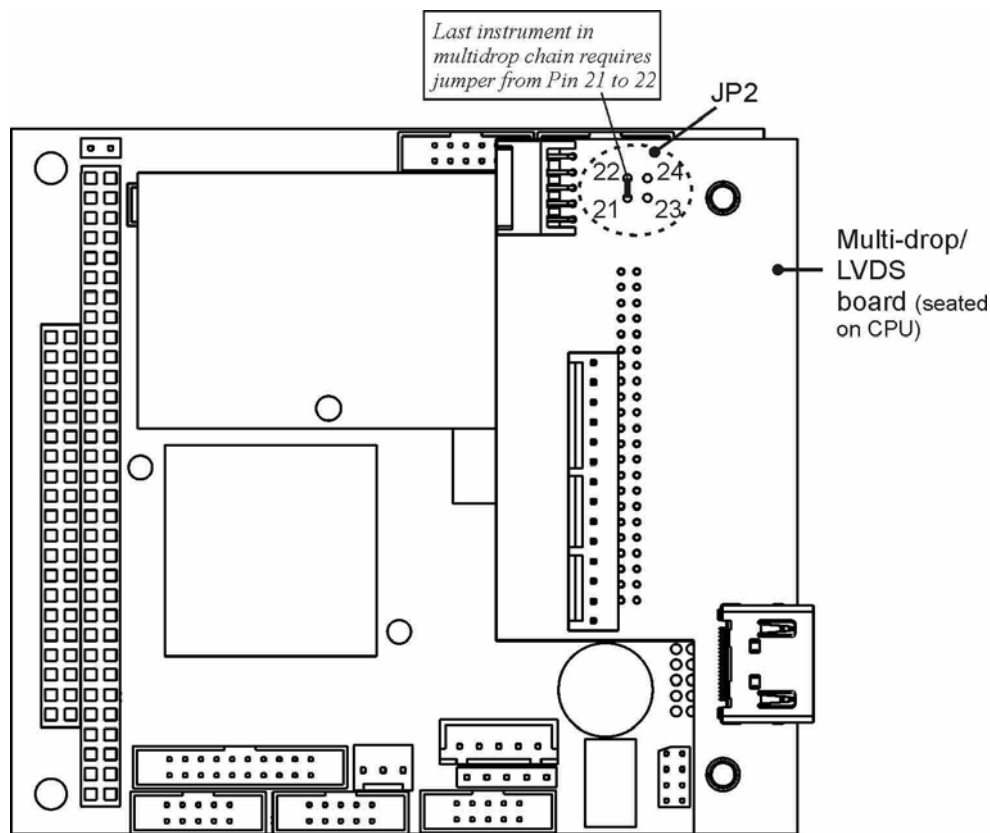

Figure 3-14: JP2 Pins 21-22 on RS-232-Multidrop PCA
2. On the multidrop PCA's JP2 connector, use the shunt provided to jumper Pins 21 ↔ 22 as indicated in (Figure 3-14).